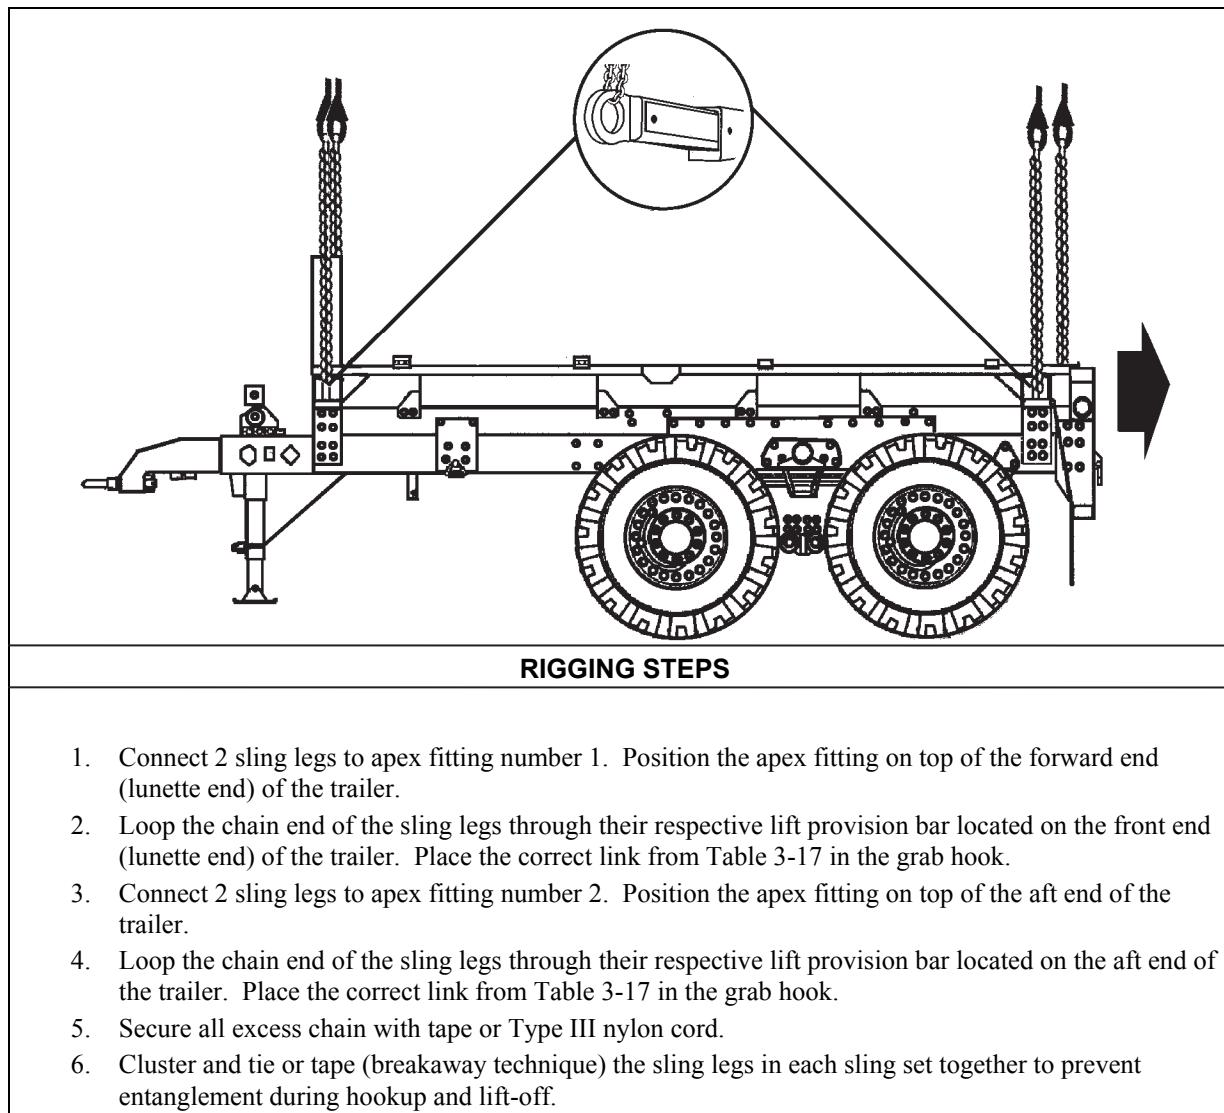

Figure 3-17. M1082 Light Medium Tactical Vehicle and M1095 Medium Tactical Vehicle Trailers
- **Rigging.** Rig the load according to the steps in Figure 3-17.